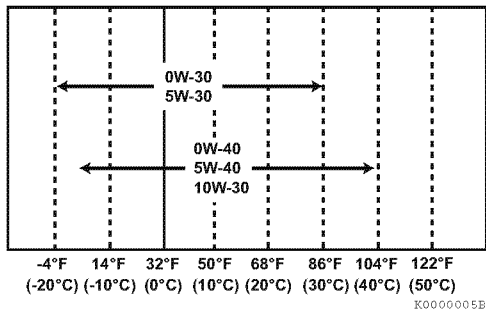

Figure 3-12
- *Select the oil viscosity based on the ambient temperature where the engine is being operated. See the SAE Service Grade Viscosity Chart (Figure 3-12).*
Select the appropriate engine oil viscosity based on the ambient temperature shown in the SAE Service Grade Viscosity Chart (Figure 3-12).